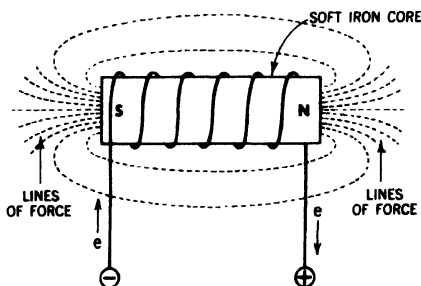

**Fig. 30-17.** *Method for determining the polarity of an electromagnet.*
**The Left-Hand Rule.** We have another method for determining the polarity of the electromagnet. If the coil is grasped in the left hand so that the fingers follow around the coil in the direction in which the electrons are flowing, the thumb will point toward the north pole (Fig. 30-17).